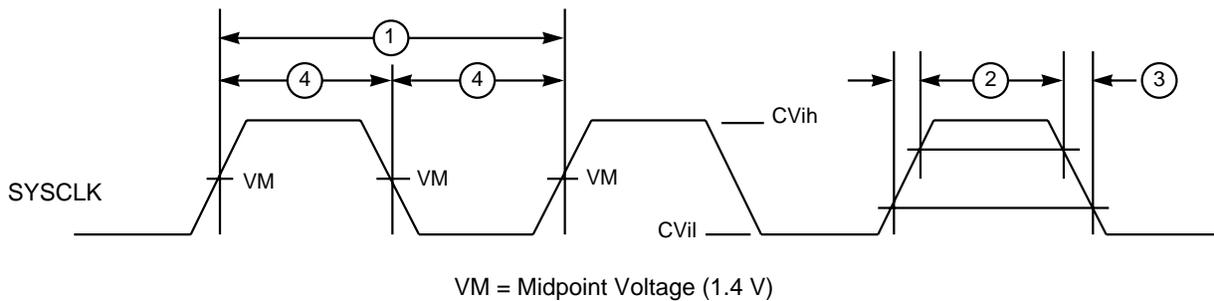
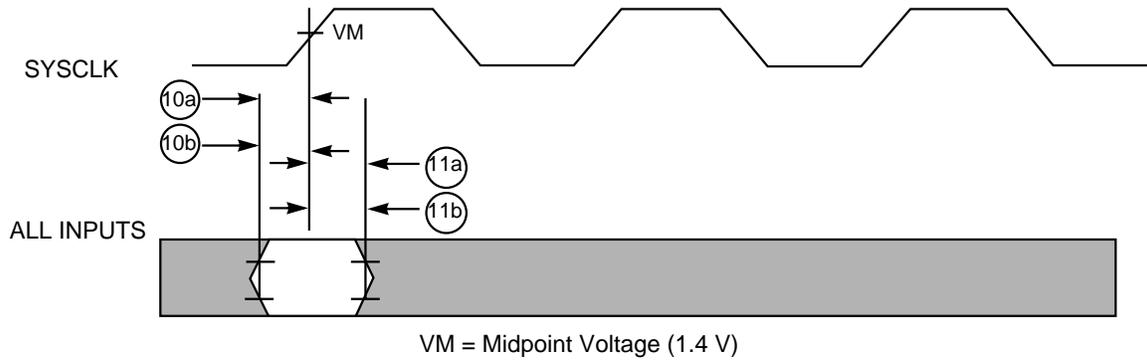
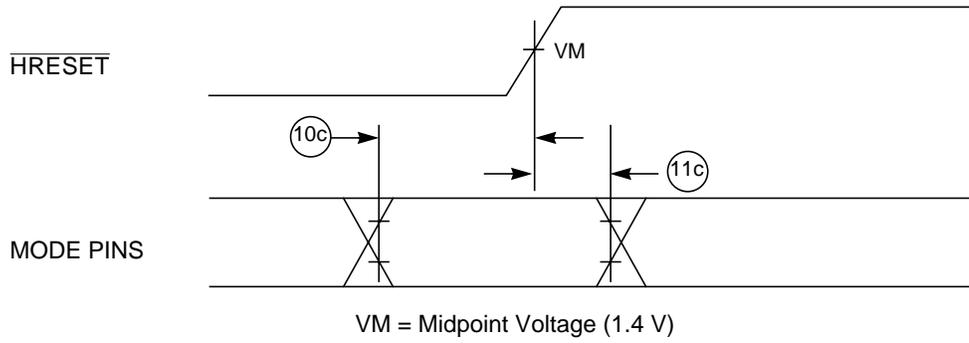

Figure 1. SYSCCLK Input Timing Diagram
Figure 2. Input Timing Diagram for the 603e and EM603e
Figure 3. Mode Select Input Timing Diagram for the 603e and EM603e
Table 7 provides the clock AC timing specifications as defined in Figure 1. After fabrication, parts are sorted by maximum processor core frequency as shown in Section 1.4.2.1, “Clock AC Specifications” and tested for conformance to the AC specifications for that frequency. Parts are sold by maximum processor core frequency; see Section 1.9, “Ordering Information.”
Figure 1 provides the SYSCCLK input timing diagram.
Table 8 provides the input AC timing specifications for the 603e and EM603e as defined in Figure 1, Figure 2, and Figure 3.
- The setup and hold time is with respect to the rising edge of HRESET (see Figure 3).
Figure 2 provides the input timing diagram for the 603e and EM603e.
Figure 3 provides the mode select input timing diagram for the 603e and EM603e.